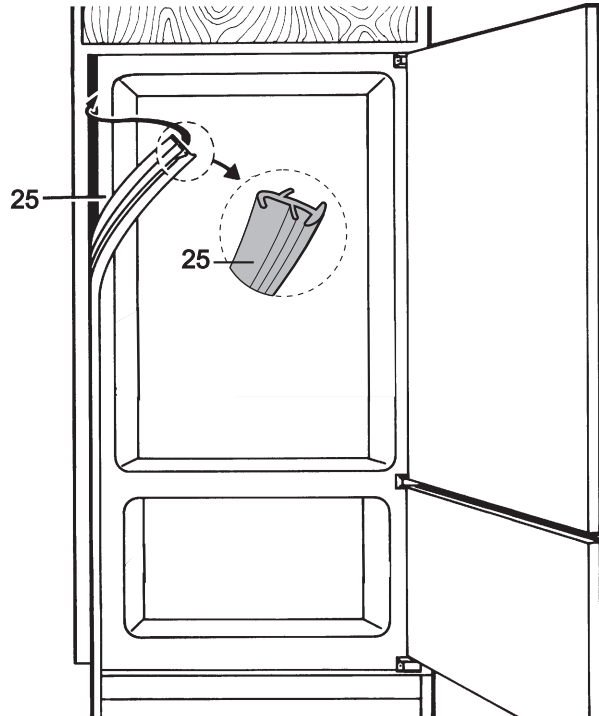

Figure 22
9. Cut sealing strip (**Fig. 22, 25**) to the length of the recess on the handle side of appliance. Press sealing strip into place between appliance and kitchen cabinet wall on handle side of appliance.